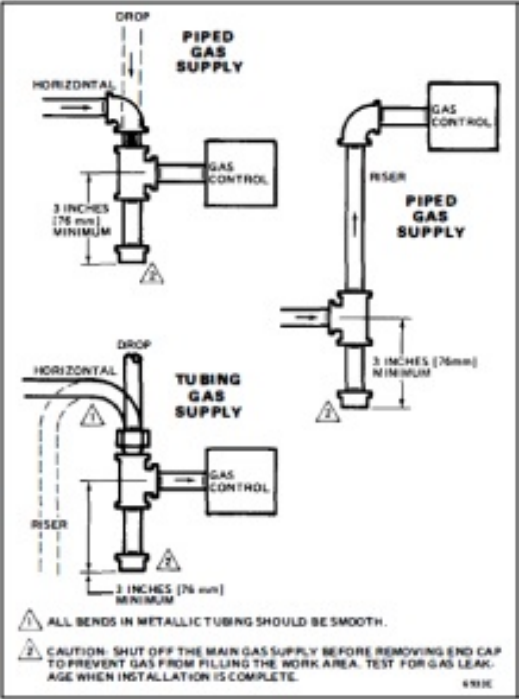

FIG. 3-SEDIMENT TRAP INSTALLATION.
3. Install sediment trap in the supply line to the gas control. See Fig. 3.